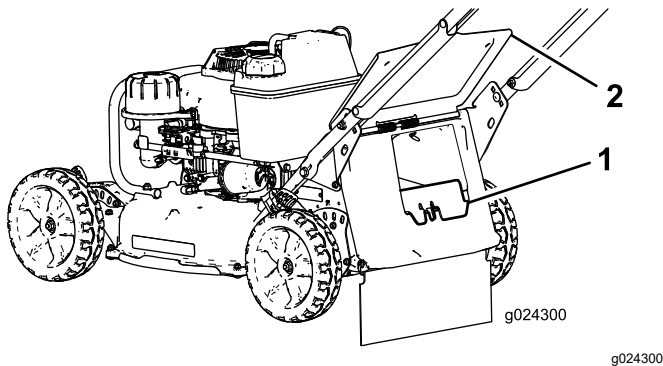

Figure 20
- If the rear-discharge plug is not installed, grip it by the handle, raise the rear door, and insert it into the rear-discharge chute until the latch locks into place (Figure 20).
3. Remove the rear-discharge plug by pushing in the latch with your thumb and pulling the plug out from the machine (Figure 20).